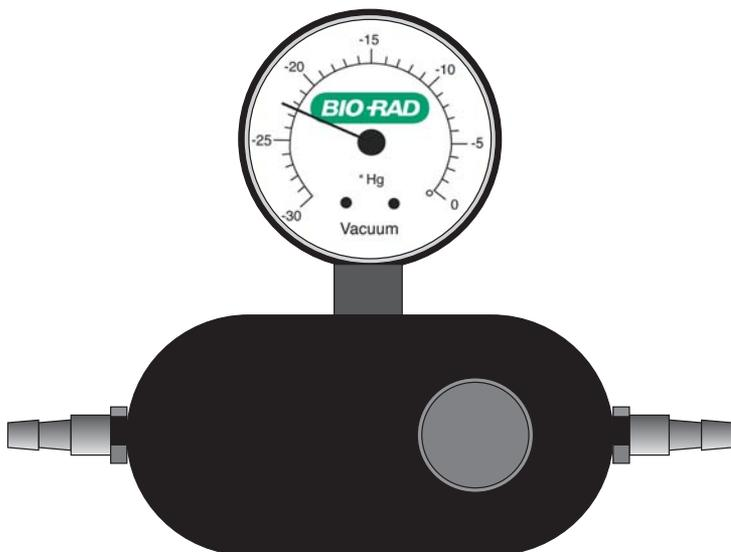

Fig. 2. Vacuum regulator with clear representation of the gauge.
- The recommended operating range is -20 to -23 " Hg. Do not exceed -25 " Hg when performing this protocol. A vacuum regulator (Figure 2) is strongly recommended to establish the appropriate negative pressure.